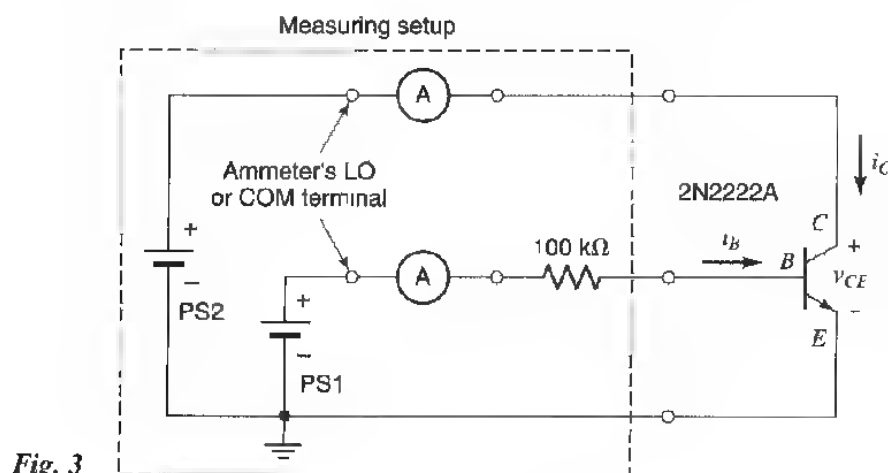

Fig. 3
1. You will measure the transistor characteristics, using the setup in Fig. 3. The part labeled "Measuring setup" is a piece of instrumentation designed for making transistor measurements. The voltage of PS1 is used for varying the base current, i_B . The resistor is used for limiting this current (connecting PS1 directly across the base-emitter would be risky since the base current depends exponentially on the base-emitter